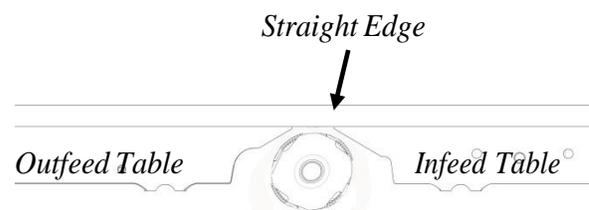

Figure 34:
STEP 2: Place straight edge across infeed and outfeed tables as in **FIG. 34**. If inserts interfere with straight edge, rotate the cutterhead.